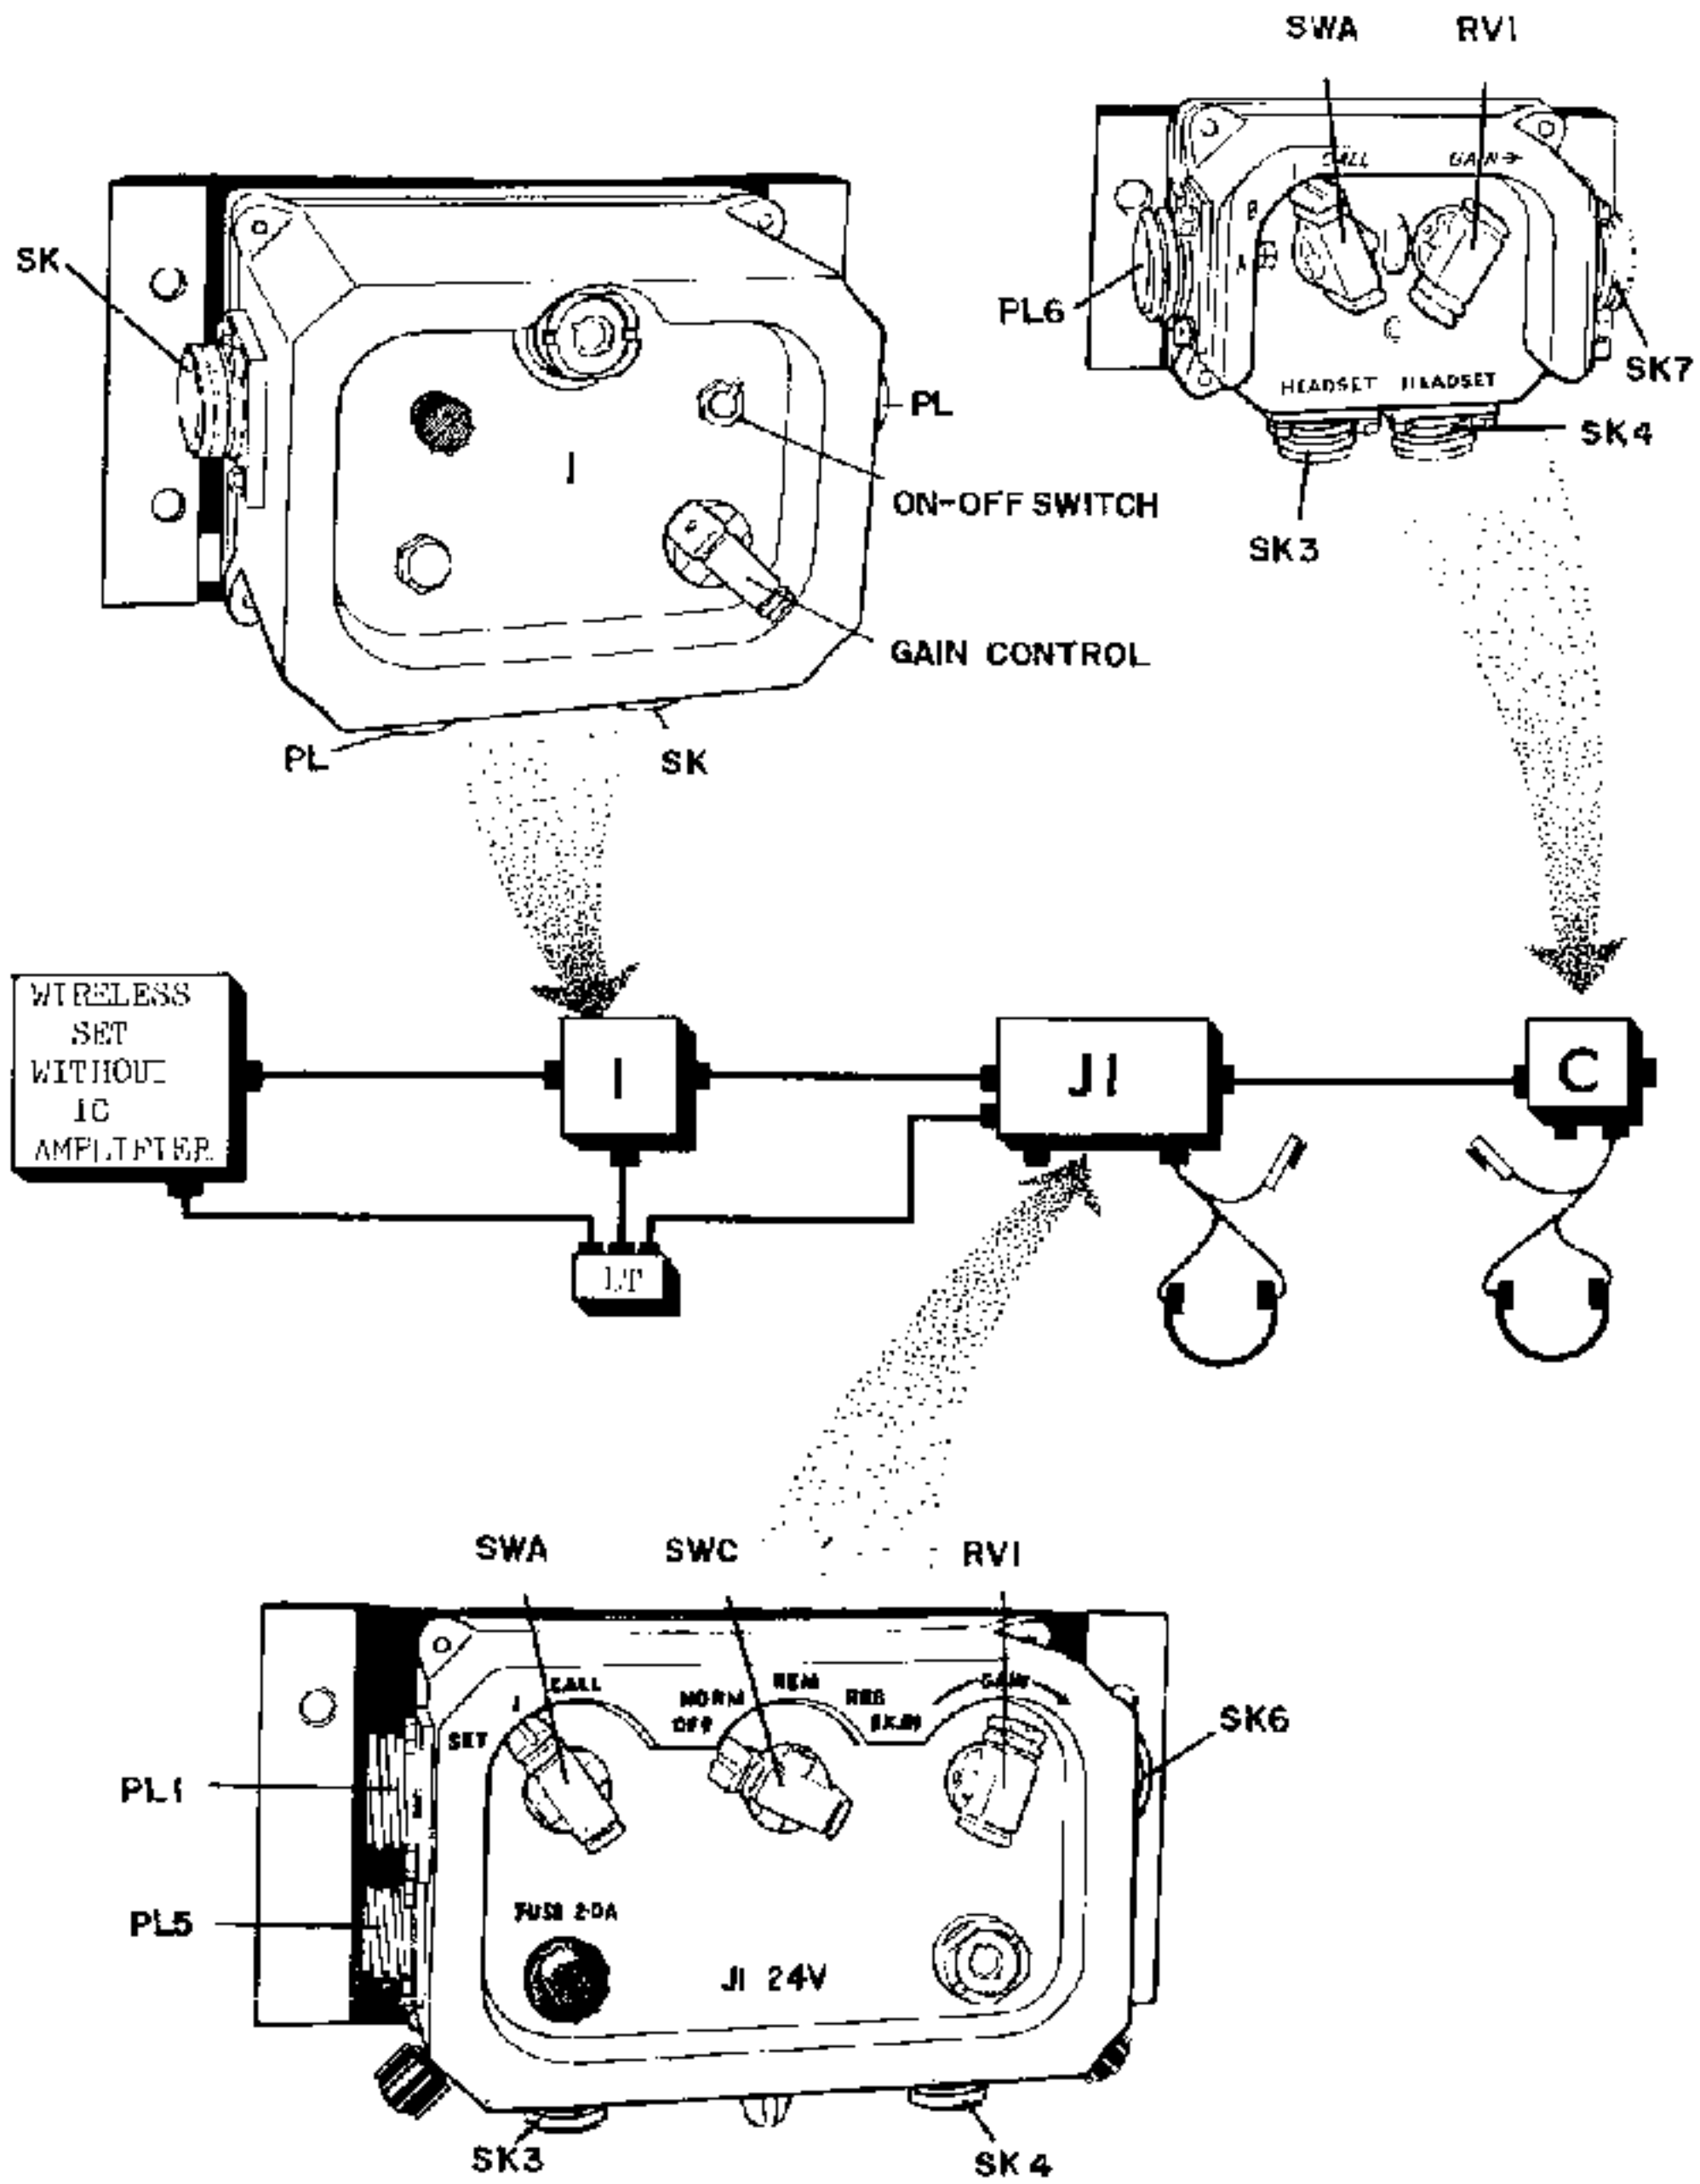

FIG 24
(Fig 24)
- (b) In addition to the IC system, normal send-receive facilities are available in the vehicle. Two headsets are shown attached in Fig 24 but this number can be increased if necessary.
130. (a) Refer to Fig 24. On control unit 'C' turn switch SWA to 'I'. On junction box 'J1' turn switch SWA to 'I' and switch SWC to NORMAL. On the amplifier unit set the ON-OFF switch to ON and observe that the warning lamp glows.